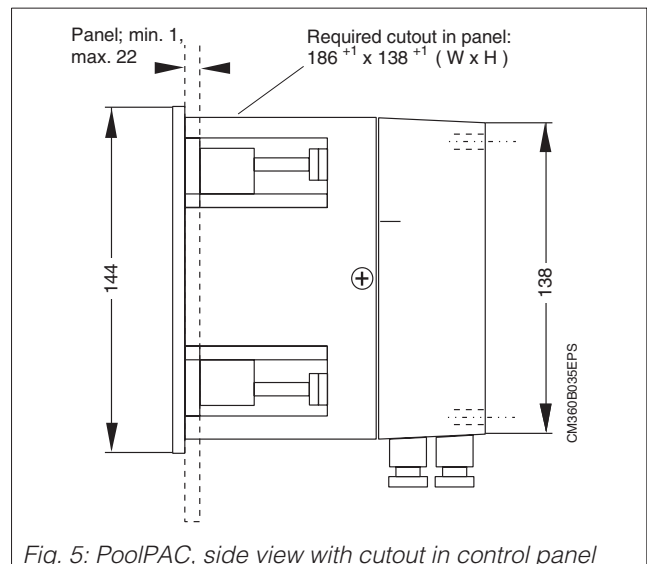

Fig. 5: PoolPAC, side view with cutout in control panel
- Make a panel cutout according to figure 5.